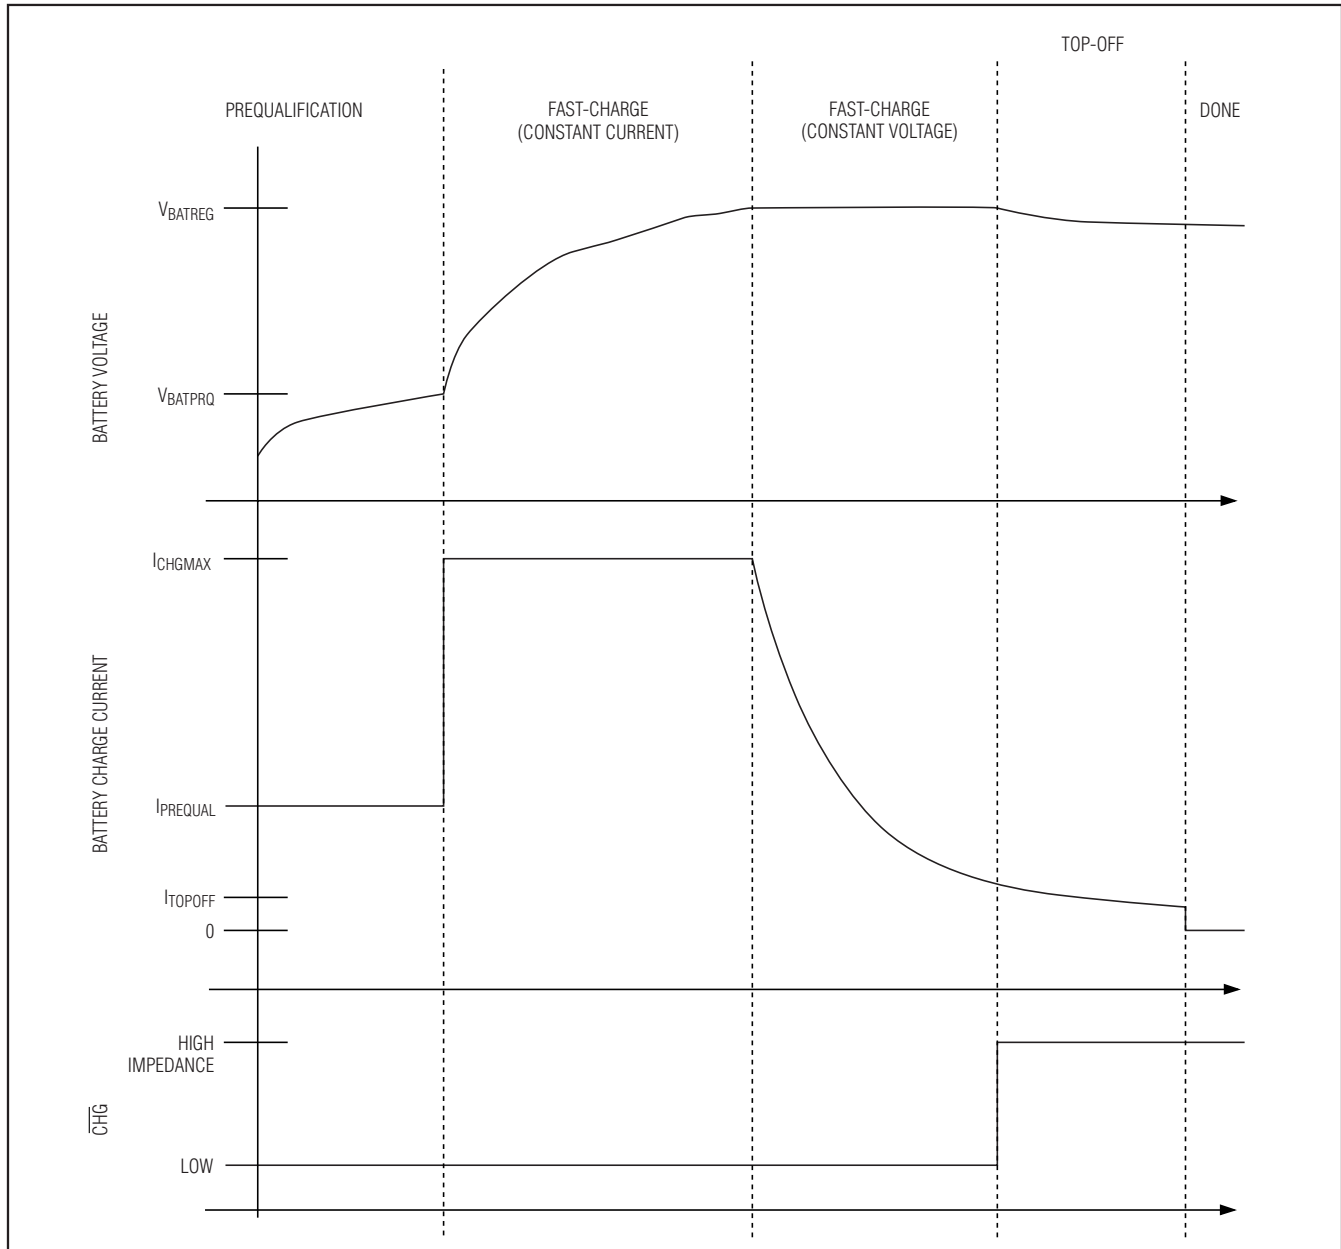
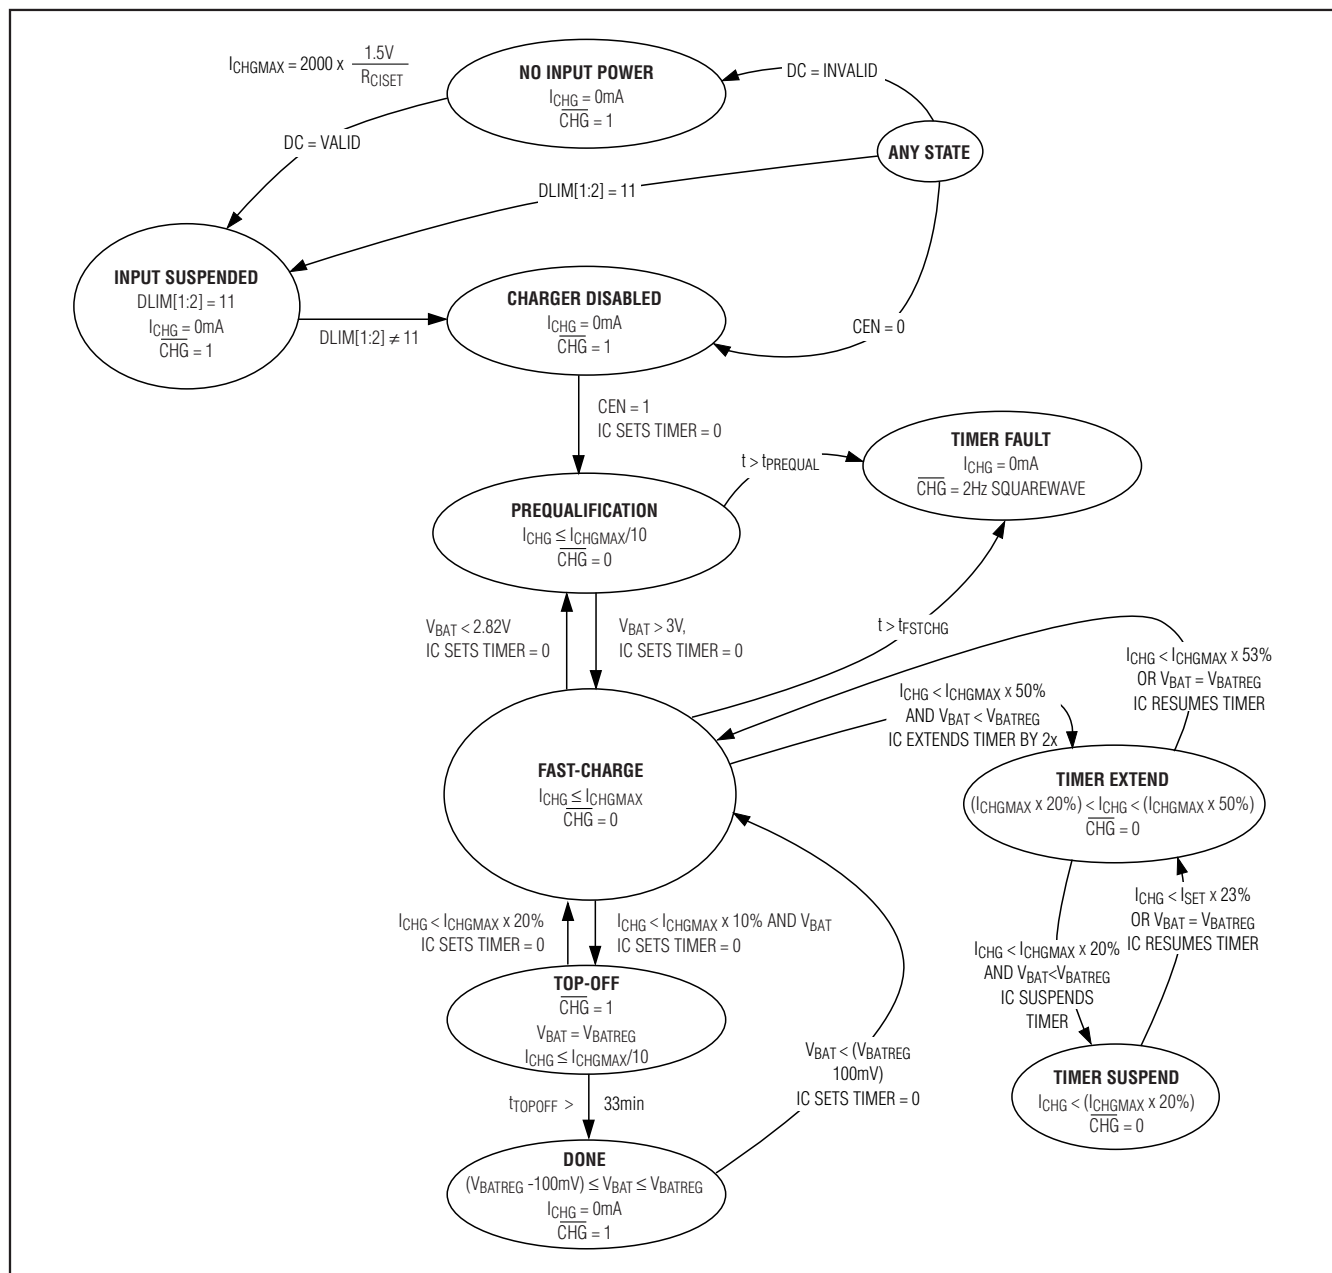

Figure 2. Li+/Li-Poly Charge Profile
Figure 3. Li+/Li-Poly Charger State Diagram
| 15  | $\overline{\text{CHG}}$ | Active-Low, Open-Drain Charge Status Output. $\overline{\text{CHG}}$ pulls low to indicate that the battery is charging. See Figure 3 for more information.                                                                                        |
Figure 2 shows the typical Li+/Li-Poly charge profile for the MAX8819..., and Figure 3 shows the battery charger state diagram.
- The battery charger stops charging in done mode as shown in Figures 2 and 3.
$\overline{CHG}$  is an open-drain, active-low output that indicates charger status. As shown in Figures 2 and 3,  $\overline{CHG}$  is low when the charger is in its prequalification or fast-charge states. When a timer count is exceeded in either state,  $\overline{CHG}$  indicates the fault by blinking at a 2Hz rate and remains in that state until the charger is reset by CEN going low, removal of DC or setting  $DLIM[1:2] = 11$ .
As shown in Figure 3, a fault timer prevents the battery from charging indefinitely. In prequalification mode, the charge time is internally fixed to 33min.
While in the constant-current fast-charge mode (Figure 2), if the MAX8819\_ reduces the battery charge current due to its internal die temperature or large system loads, it slows down the charge timer. This feature eliminates
nuisance charge timer faults. When the battery charge current is between 100% and 50% of its programmed fast-charge level, the fast-charge timer runs at full speed. When the battery charge current is between 50% and 20% programmed fast-charge level, the fast-charge timer is slowed by 2x. Similarly, when the battery charge current is below 20% of the programmed fast-charge level, the fast-charge timer is paused. The fast-charge timer is not slowed or paused when the charger is in the constant voltage portion of its fast-charge mode (Figure 2) where the charge current reduces normally.